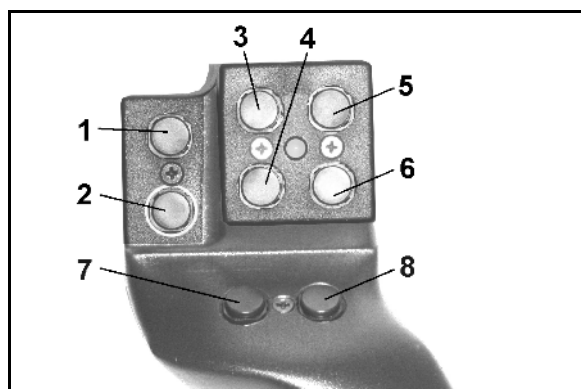

Fig. 60
For operation of the AMATRON 3, the multi-function stick (Fig. 60) has 8 keys (1 - 8) available. In addition, the assignment of the keys can be changed 3-fold by means of a switch (Fig. 61/2).
-  central position (Fig. 60/A) and can be pressed
-  up (Fig. 60/B) or
-  down (Fig. 60/C)
The position of the switch is indicated by an LED lamp (Fig. 60/1) angezeigt.